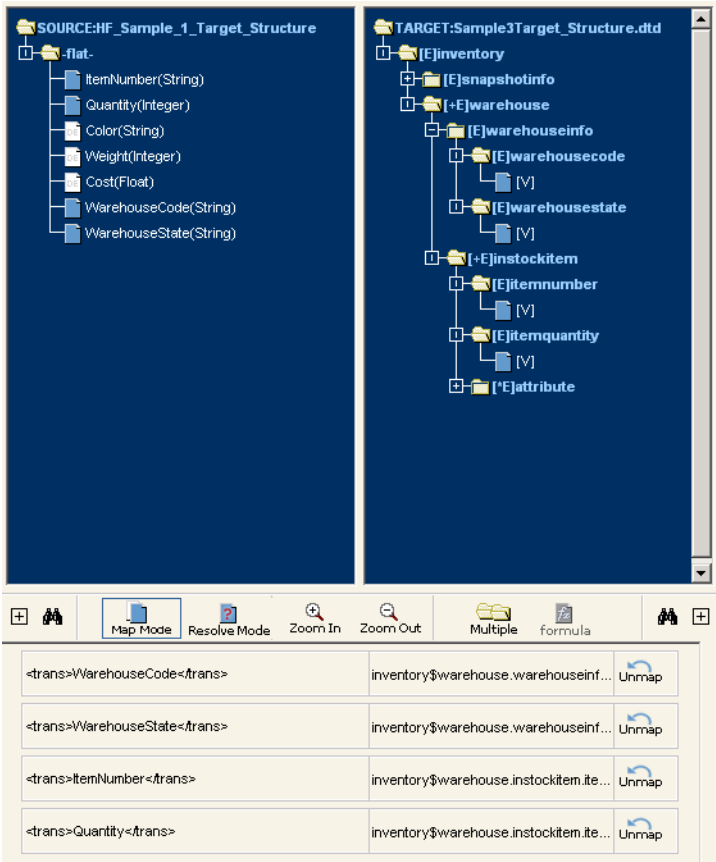

Figure 24-1. Start by mapping the source data elements that are the same for each record.
- ❷ Once you’ve mapped these first four elements, compare your work to Figure 24-1 below.